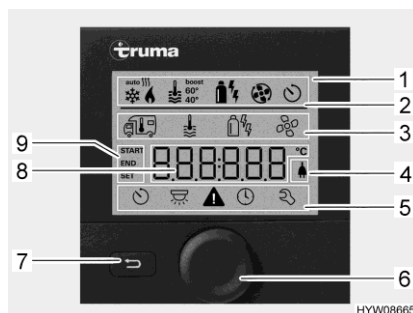
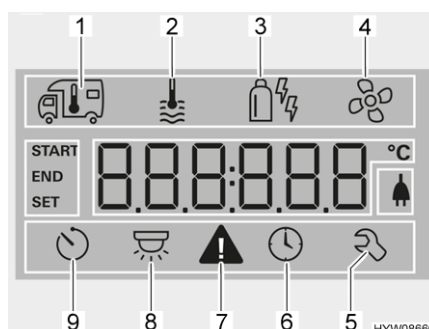

Fig. 154 Operating unit with displays
Fig. 155 Display (operating unit)
- Status line (Fig. 154,2)
- Upper menu line (Fig. 154,3)
- Display area (Fig. 154,8)
- Lower menu line (Fig. 154,5)
- Press and hold the rotary push button (Fig. 154,6) for approx. 3 seconds. Both menu lines (Fig. 154,3 and Fig. 154,5) are displayed. The first symbol flashes.
- Turn rotary push button (Fig. 154,6) until the required menu symbol flashes.
- Press rotary push button to save the value set. If you do not wish to change the value originally set: Press back button (Fig. 154,7).
- Turn rotary push button (Fig. 154,6) until the heater menu symbol (Fig. 155,1) flashes.
- Press rotary push button to save the value set. The symbol in the status line (Fig. 154,2) flashes until the room temperature set is reached. If you do not wish to change the value originally set: Press back button (Fig. 154,7).
- Turn rotary push button (Fig. 154,6) until the hot water menu symbol (Fig. 155,2) flashes.
- Press rotary push button to save the value set. The symbol in the status line (Fig. 154,2) flashes until the hot water temperature set is reached. If you do not wish to change the value originally set: Press back button (Fig. 154,7).
- Turn rotary push button (Fig. 154,6) until the menu symbol operating mode (Fig. 155,3) flashes.
- Press the rotary push button to save the set operating mode. To revert to the original setting: Press back button (Fig. 154,7).
- Turn rotary push button (Fig. 154,6) until the fan menu symbol (Fig. 155,4) flashes.
- Turn rotary push button (Fig. 154,6) until the timer menu symbol (Fig. 155,9) flashes.
- Press rotary push button. The timer is activated. The timer symbol (Fig. 155,9) flashes when the timer is programmed and active.
The warning symbol (Fig. 155,7) flashes in the event of a warning. The heater continues to operate. In the event of only a temporary fault, the warning symbol goes out automatically.